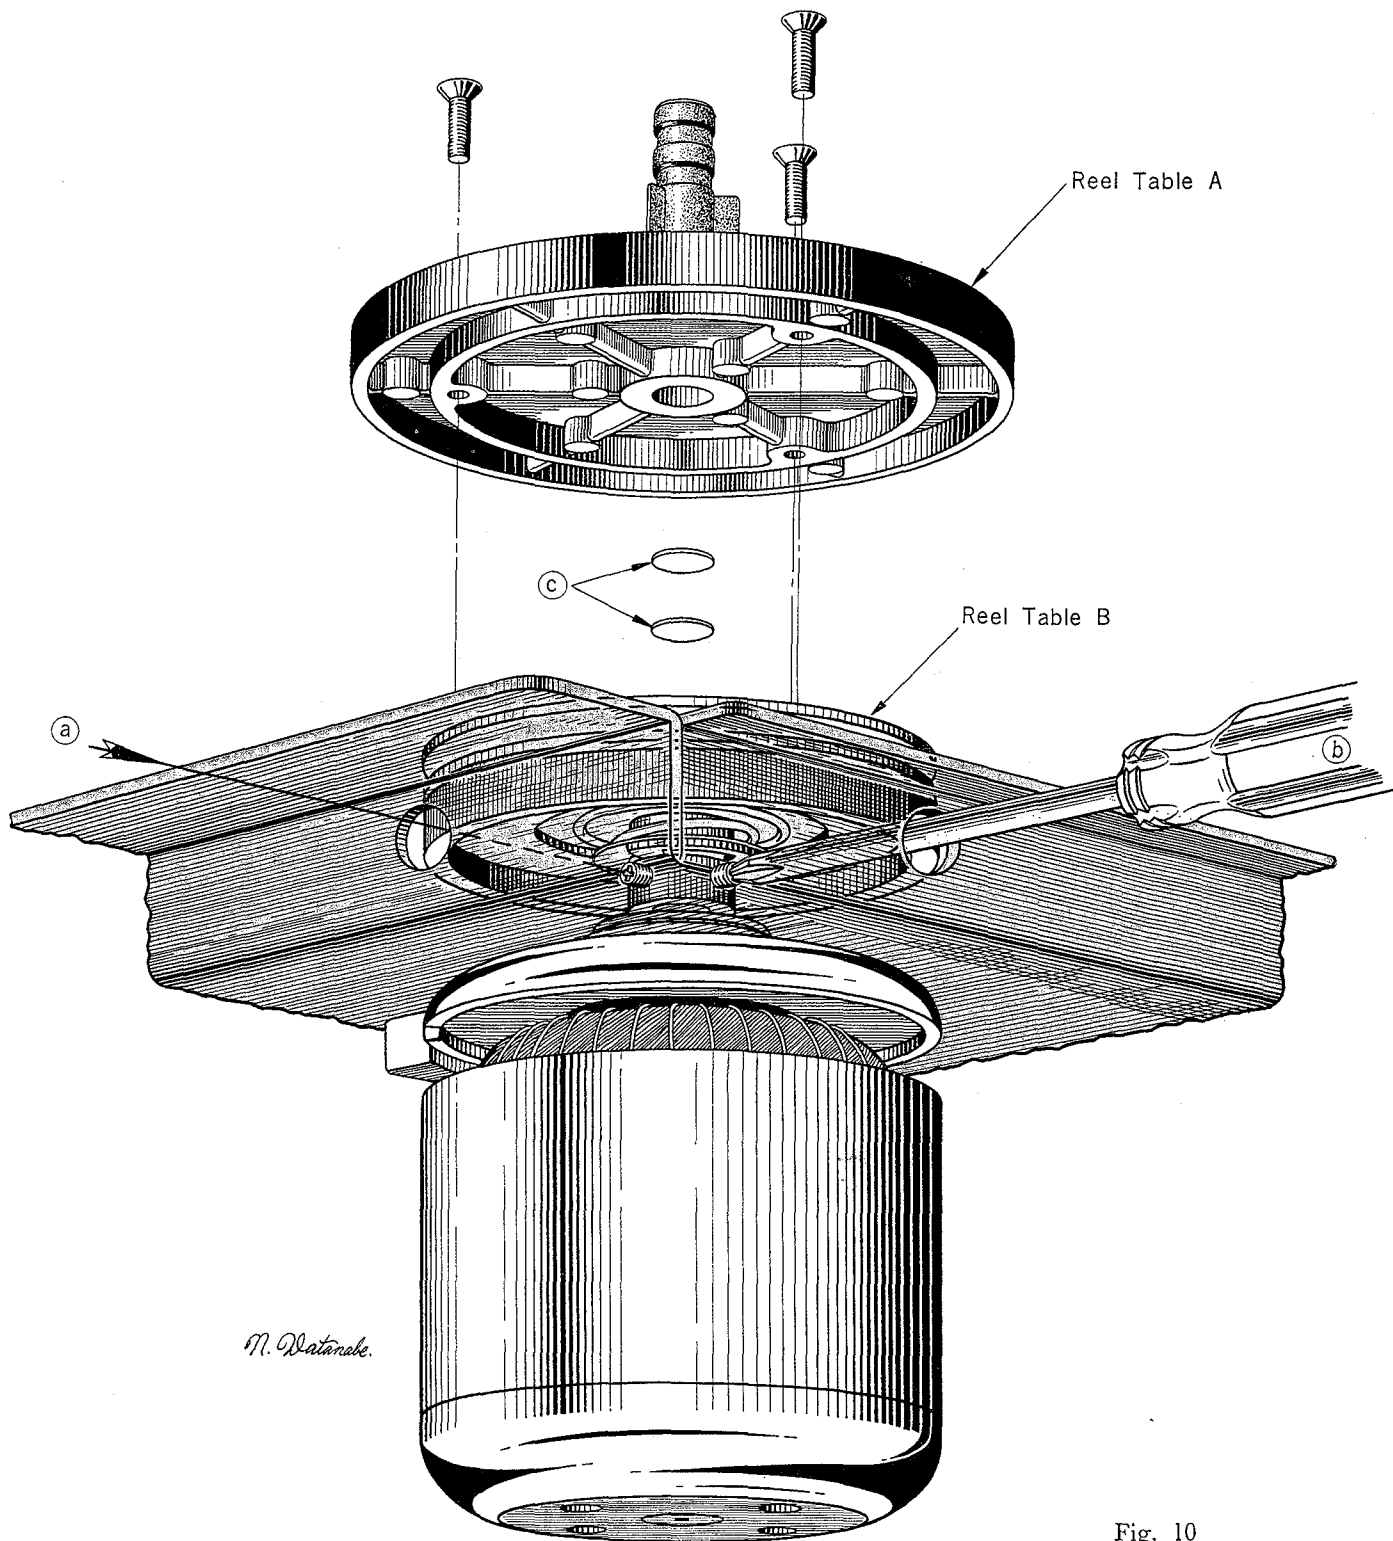

Fig. 10
1) For adjustment of the height of the reel table, move the reel table B vertically by loosening the set screw of this table with use of a screw driver inserted into the round hole in the directions designated at ⓐ and ⓑ with the reel table A already removed, as shown in Fig. 10.